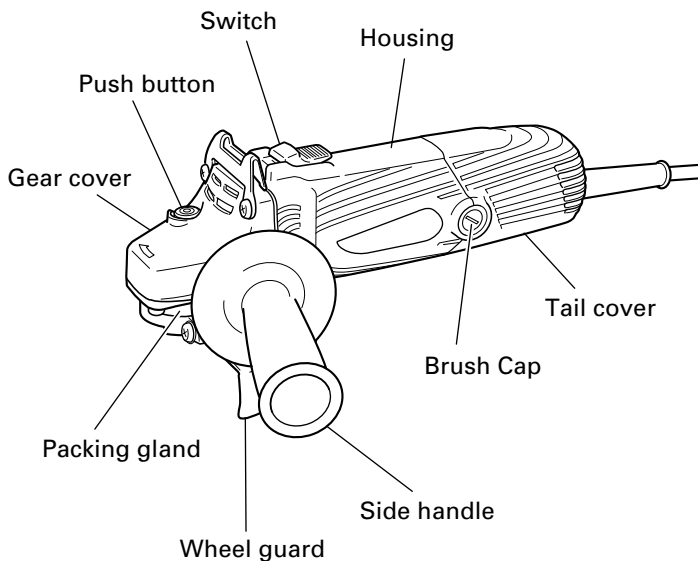

Fig. 1
1. Hold the grinder firmly by its housing and side handle (Fig. 1). The grinder produces a counterforce which must be controlled by firmly holding onto the grinder.